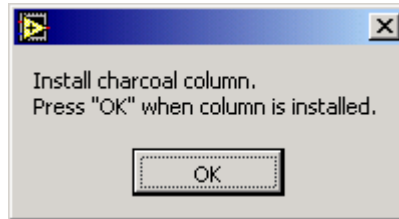

Figure 14: Prompt to install charcoal column
After the tubing set is primed, a dialogue box will appear requesting the installation of the column (Figure 14). Do not select “OK” until column is installed.
9. Inspect the installation and confirm that the flow direction arrows point upwards (see figure 15b), and then press “OK” on the prompting dialog (Figure 14).